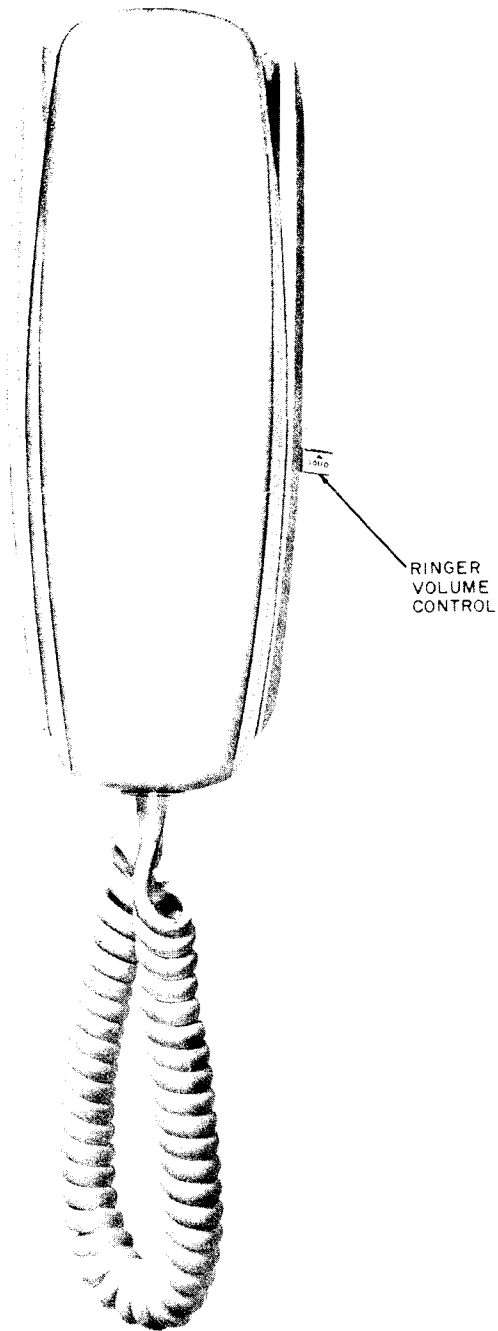
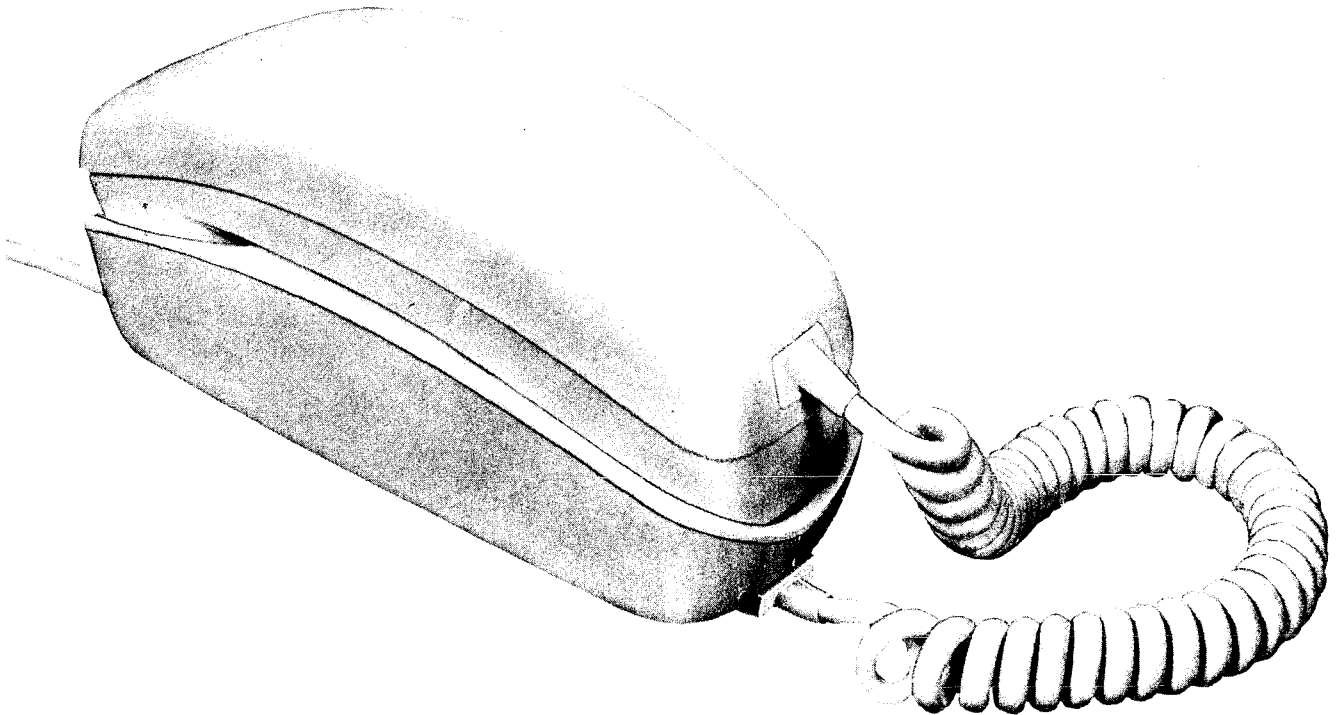

Fig. 1—AC1 Telephone Base With 220A Hand Telephone Set
Fig. 2—AD1 Telephone Base With 1220A Hand Telephone Set
2.01 The AC1 telephone base (Fig. 1) mounts on a flat vertical surface while the AD1 (Fig. 2) may be placed on a flat horizontal surface.